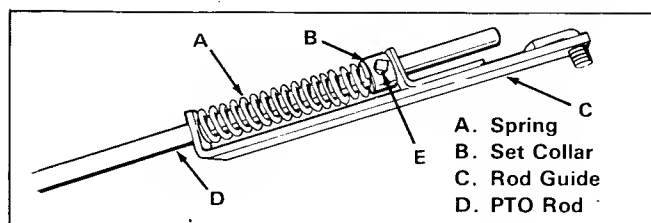

Figure 53. PTO Rod Assembly
10. To assemble PTO rod, hold spring and set collar (items A and B, figure 53) between brackets on rod guide (item C), and slide straight end of PTO rod (item D) through rod guide, spring, and set collar. Be sure to position parts onto rod as shown. The setscrew (item E) can be threaded into set collar.